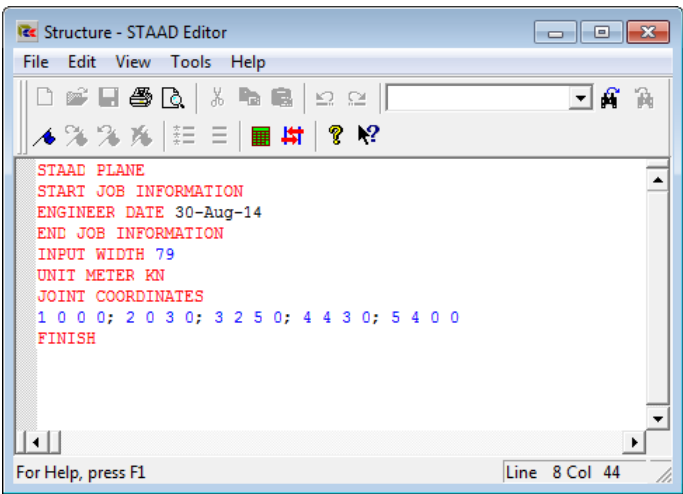

Figure 2-3 Commands specified in the STAAD Editor window
Step 3: In this window, specify the commands, as shown in Figure 2-3.